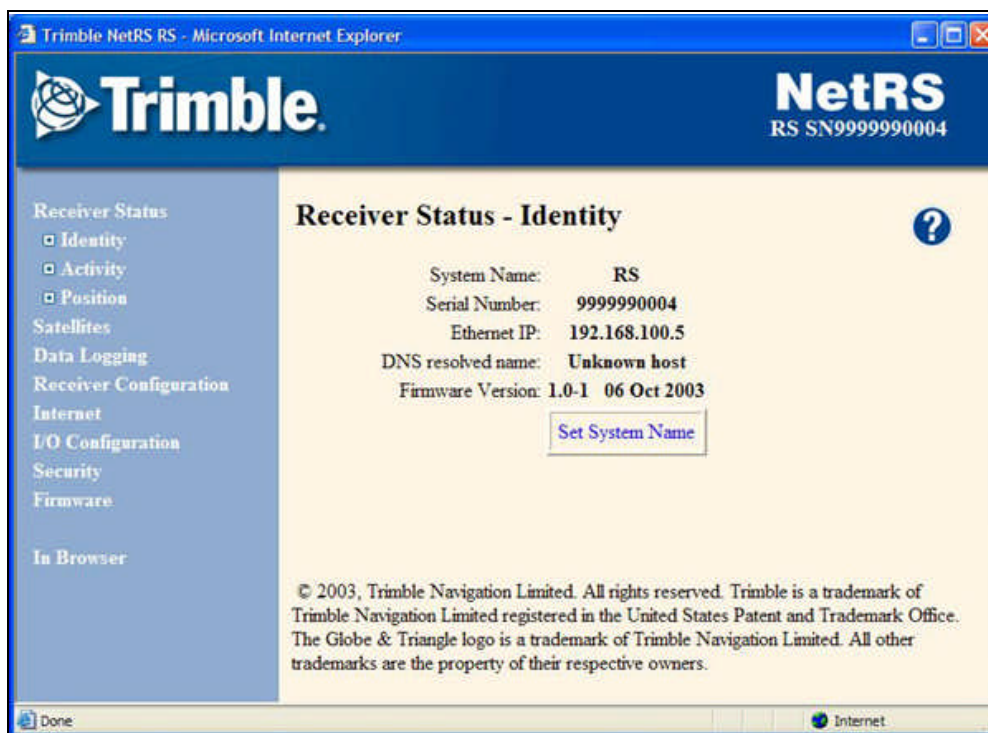

Figure 9. GPS Receiver Home Page
- i. At this point, you should be able to access the Trimble NetRS receiver over the Ethernet network via a web browser. Launch your web browser and in the address line type the IP address of your GPS receiver. For this technical note, we will use http://192.168.100.5. Once you launch your browser, you will see the GPS receiver home page in Figure 9.